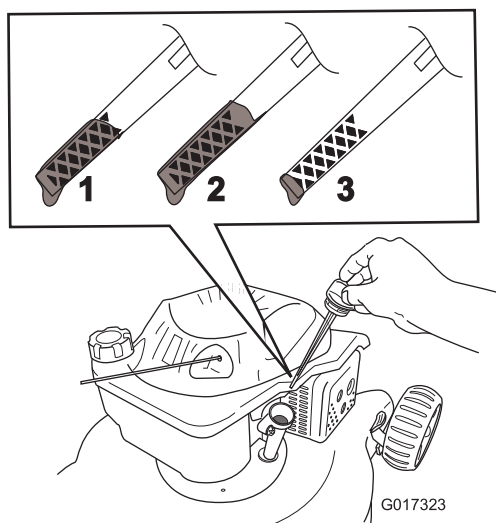

Figure 24
8. Remove the dipstick and read the oil level on the dipstick (Figure 24).